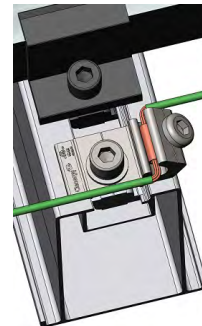

Fig.32
5.3.3 Apply one pre-assembled Grounding Lug per T Rail. Click the Grounding Lug into the channel of the T Rail and insert the Copper Wire. (the maximum size is 6AWG or similar) Then fasten the bolt M6\*10 with 10N·m and fasten the bolt M8\*25 with 13.5N·m as shown in the Fig.32.